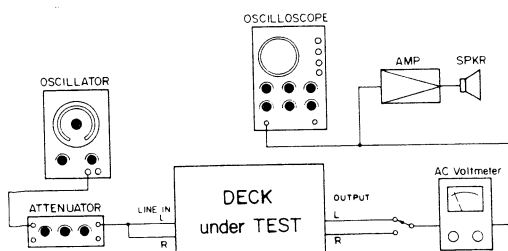

Fig. 6-9 Connection
1. Connect the deck and the test equipment as shown in Fig. 6-9.